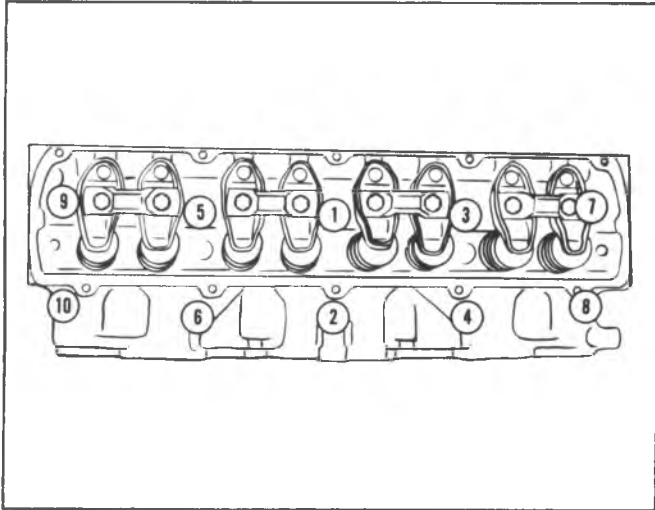

Fig. 6A6-47--Cylinder Head Torque Sequence
1. Install pre-chamber, if removed. The pre-chamber can only be installed in one position. (Fig. 6A6-45).